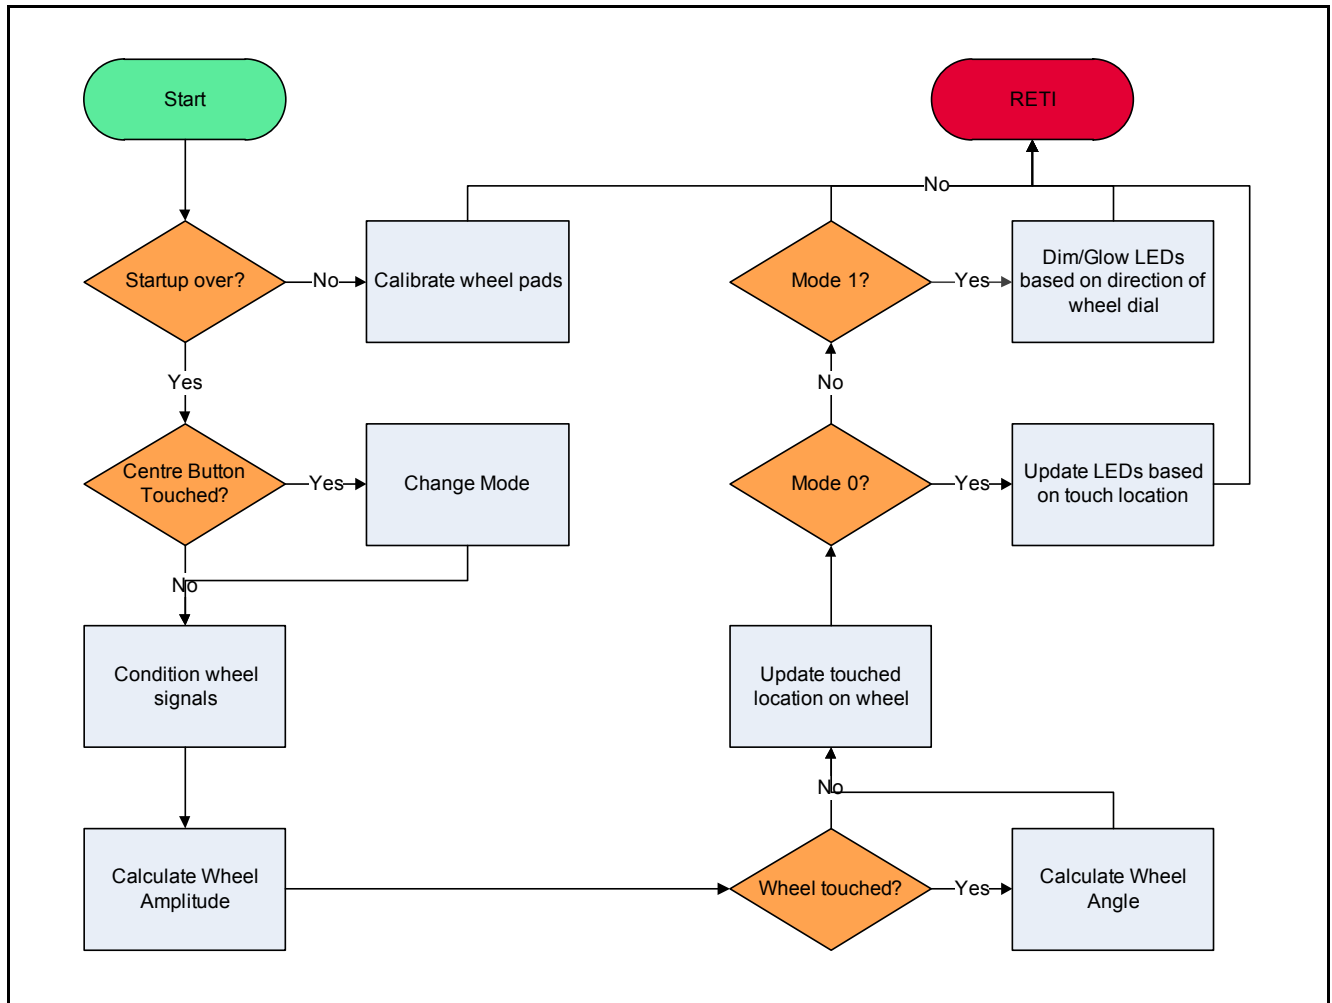

Figure 5 Timer 2 Overflow Interrupt Service Routine
- T2 Overflow Interrupt (Figure 5)